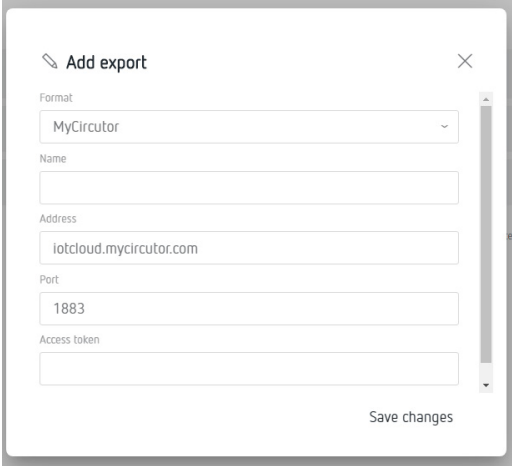

Figure 41: Export screen: Add Export.
Press  **Add export**, to select and configure the Cloud platform, the screen shown in **Figure 41** will appear.
6.- Copy the Token and enter it into the configuration website of the device, **Figure 41**.